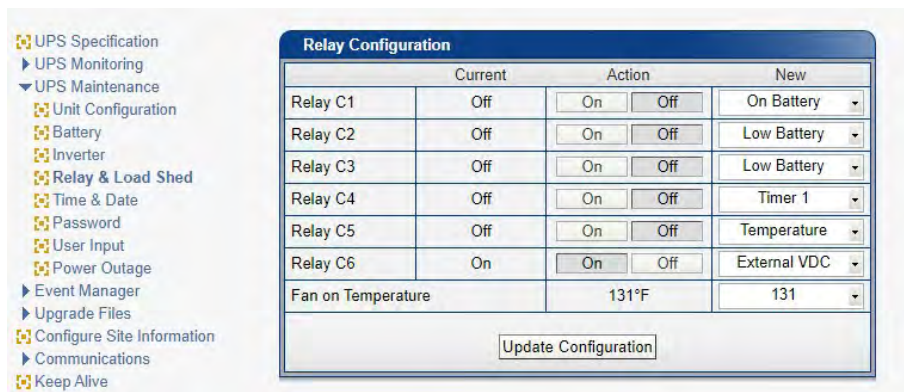

Figure 33 — Setting the Temperature Trigger Value
- Figure 33 shows the fan-on temperature threshold set at 55°C. To change this value, type the new value into the Fan On Temperature box (or use the up/down arrow keys) and click **Update Configuration** to update the current status display.